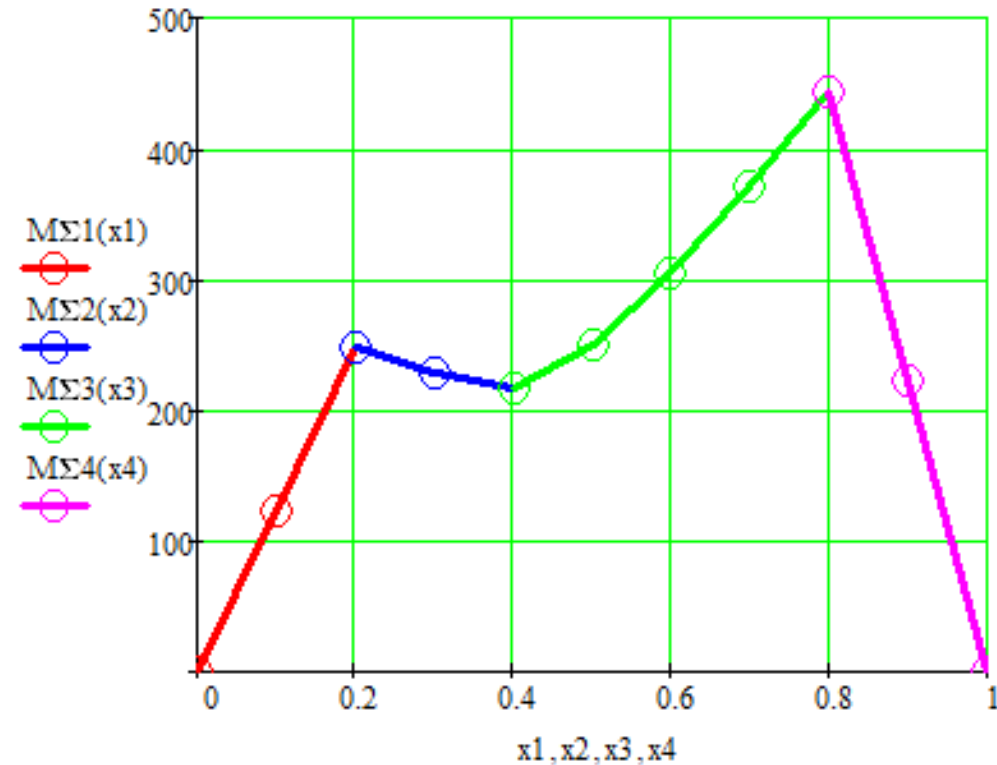

Fig. 12 – Diagram of resulting bending moments
13. Construct a diagram of resulting bending moments (**Fig. 12**)